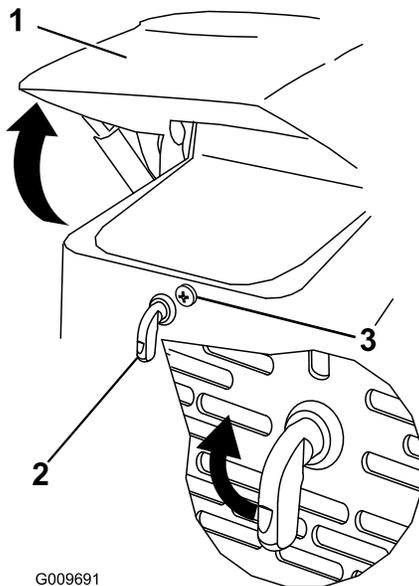

Figure 30
1. Loosen the hood-locking screw (Figure 30)
2. Turn the hood latch clockwise (Figure 30).
3. Swing the hood up (Figure 30).
3. Tighten the hood-locking screw to secure the latch (Figure 30).